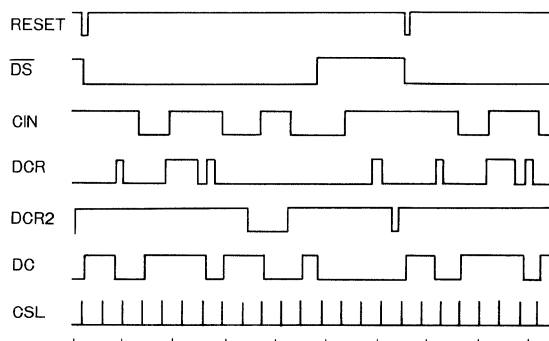

Fig.15
## (2) DISK CHANGE/ (INDEX) (Table 2, Fig.15参照)